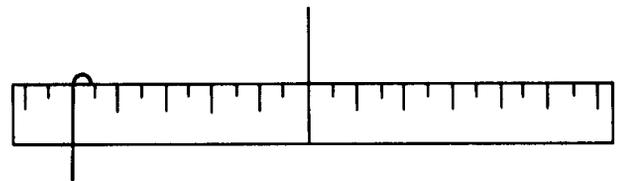

Figure 6-13
2. Form three paper clips of the same mass in the shape of a hook so they can be suspended from the ruler (Fig. 6-13).
Place a clip on one side of the ruler on the one-inch mark (Fig. 6-13).